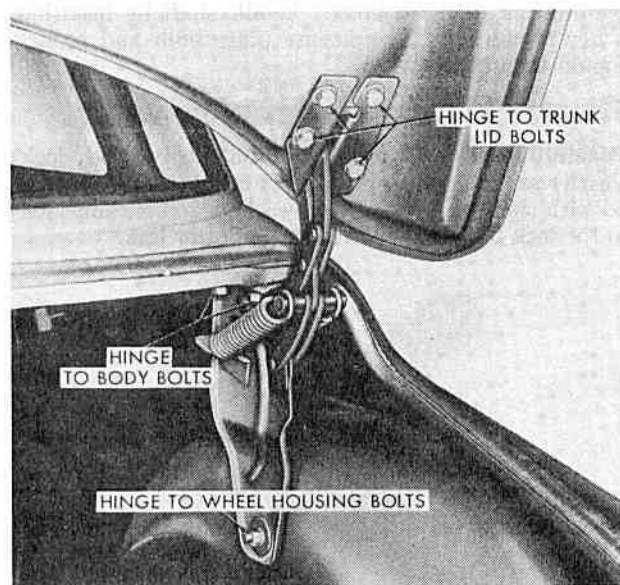

FIG. 26
**CHAMPION AND COMMANDER** For trunk lid alignment, the following adjustments can be made at the hinges and the striker plate (see Figs. 26 and 27).